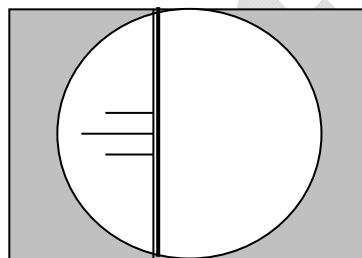

Figure 11 Zeroing the micrometer
2. Zeroing the micrometers: Rotate the measuring wheel so that the thin lines on the left and right sides are infinitely close, leaving only a very small faint light in the middle, see Figure 11. Press <zero> again to set the d1 and d2 values to zero. Then rotate the measuring wheel to move the right thin line to the right to separate the two thin lines.